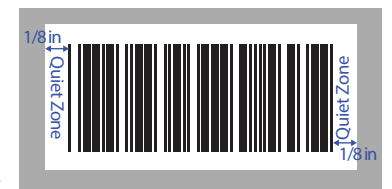

Figure 3
- COLOR: Submit as vector art and at 100% Black. (Figure 3)